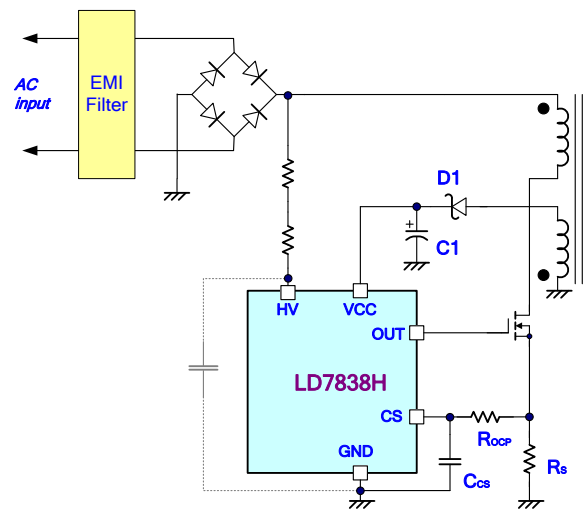

Fig. 13
To achieve optimized topology, as shown in Fig. 13, LD7838H is implemented with a high-voltage startup circuit to enhance it. During startup, a high-voltage current source sinks current from the full-bridge rectifier to provide the startup current and charge Vcc capacitor C1 at the same time. On condition of Vcc below UVLO(ON), the charge current will increase to 1.8mA once Vcc rises above UVLO(ON) voltage threshold during start up. Meanwhile, it consumes only 75µA for Vcc supply current, that most of the HV current is reserved to charge the Vcc capacitor. In using such